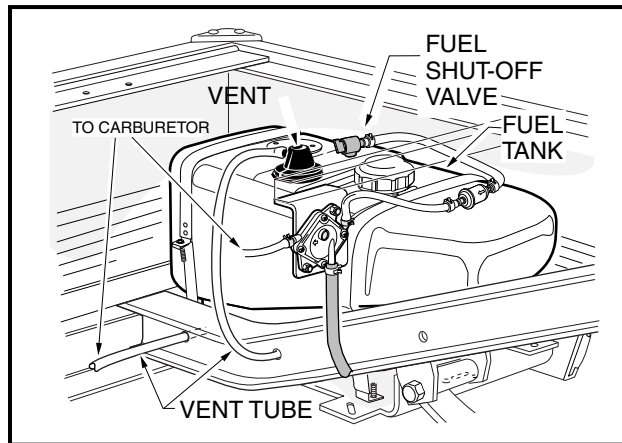
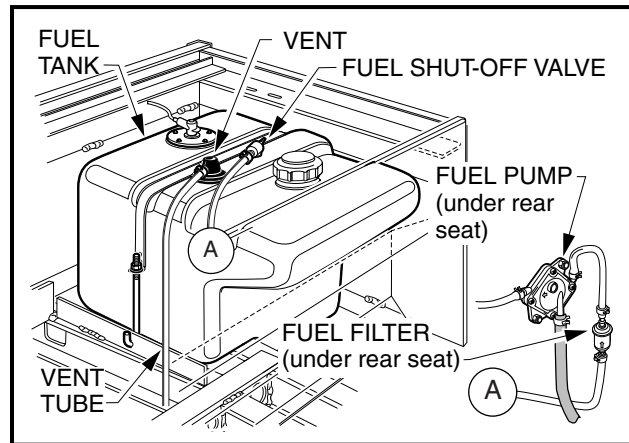

Figure 10-11 Bobcat 2100 Fuel Tank
Figure 10-12 Bobcat 1200S Fuel Tank
- If the vehicle has an all-weather enclosure installed, the gas tank must be properly vented as shown (**Figure 10-11, Page 10-8**).
1. Fill the fuel tank with fresh, unleaded gasoline only (Figure 10-11, Page 10-8 or Figure 10-12, Page 10-8). See preceding **DANGER**, **CAUTION** and **NOTE**.